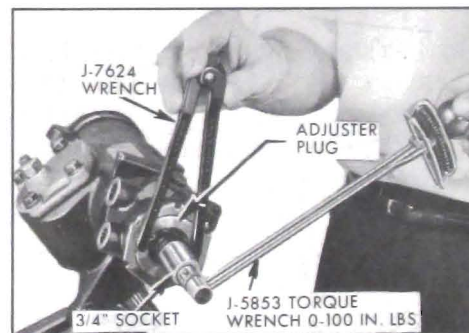

Figure 8-39—Adjusting Thrust Bearing Preload
2. Loosen adjuster plug lock nut and back off adjuster plug approximately 1/8 turn with adjustable spanner wrench J-7624. Attach torque wrench J-5853 with 3/4 inch 12 point socket to stub shaft and turn shaft to approximately 1/2 turn from either extreme. Slowly rotate wrench in an arc approximately 60° (1/6 turn) in both directions several times to measure valve drag and record highest reading. See Figure 8-39. Then tighten adjuster plug until thrust bearing preload is 1 to 3 inch pounds in excess of drag measured with adjuster plug backed out. Total of thrust bearing preload and valve drag should not exceed 11 inch pounds.